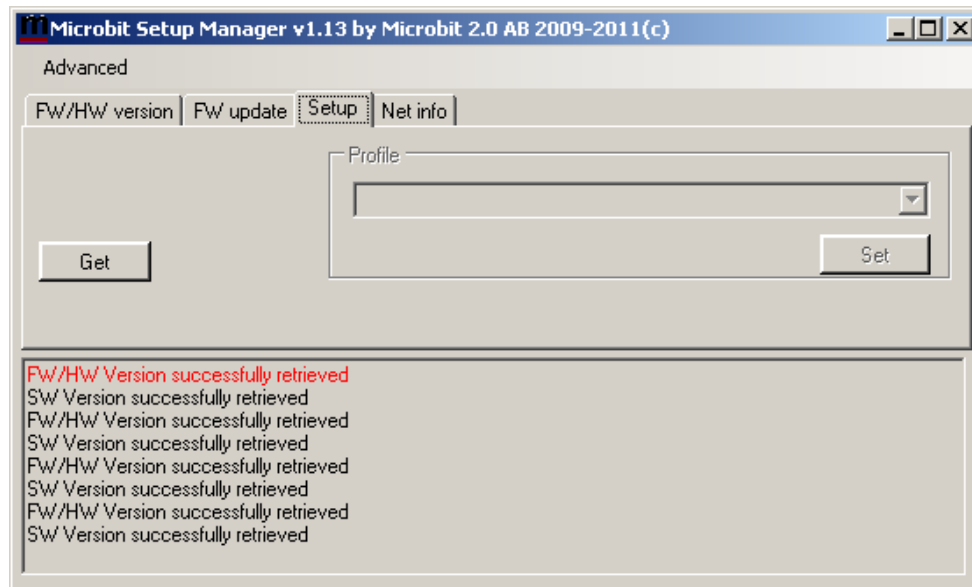

Figure 3
4. Click on the Setup tab to open the window shown in Figure 3.